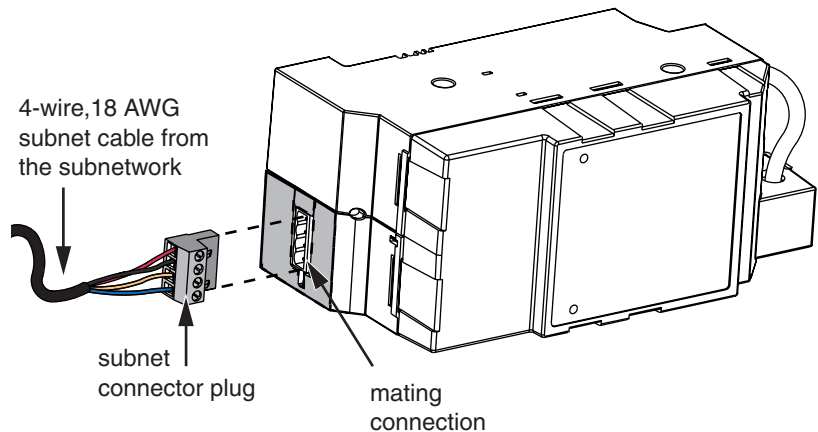

**Figure 4: Subnet connector plug wire installation**
3. Using the same process above, secure the wires into the remaining three terminals A, -, and + (see Figure 4).